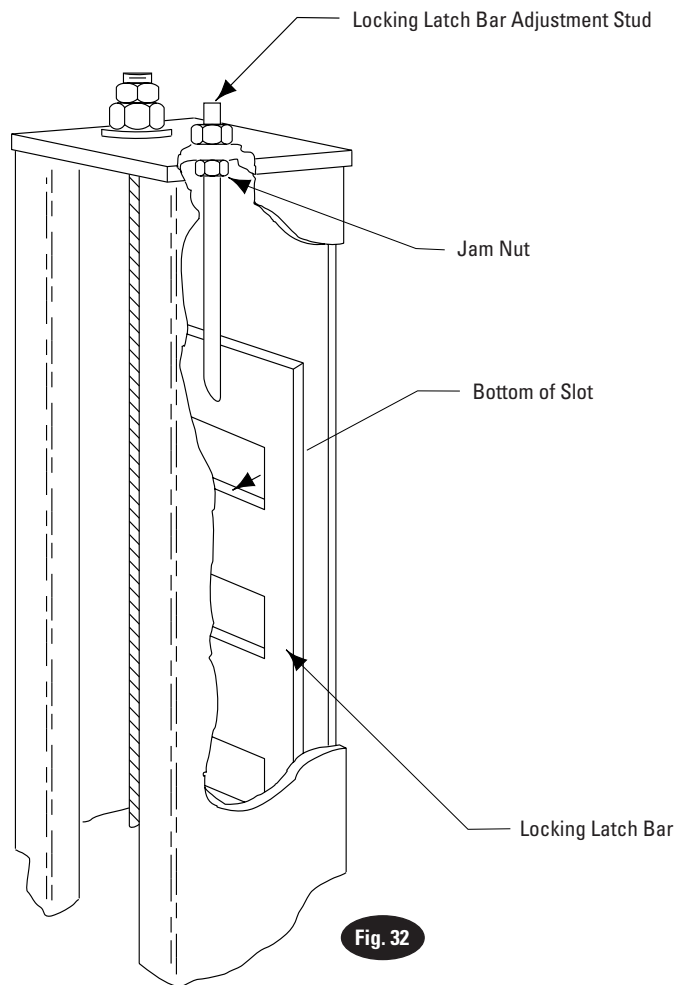

Fig. 32
3. Adjust locking latch bar adjusting nut so that the bottom of the topmost latch bar slot is at least 2" below locking latch, Fig. 32. After adjustment, tighten jam nut underneath column top plate, Fig. 32.